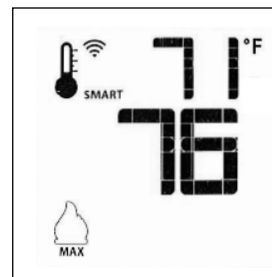

Figure 72. Smart Mode
- To activate this function, press the Thermostat Key until the word “SMART” appears to the right of the thermometer bulb icon. Fig. 72.